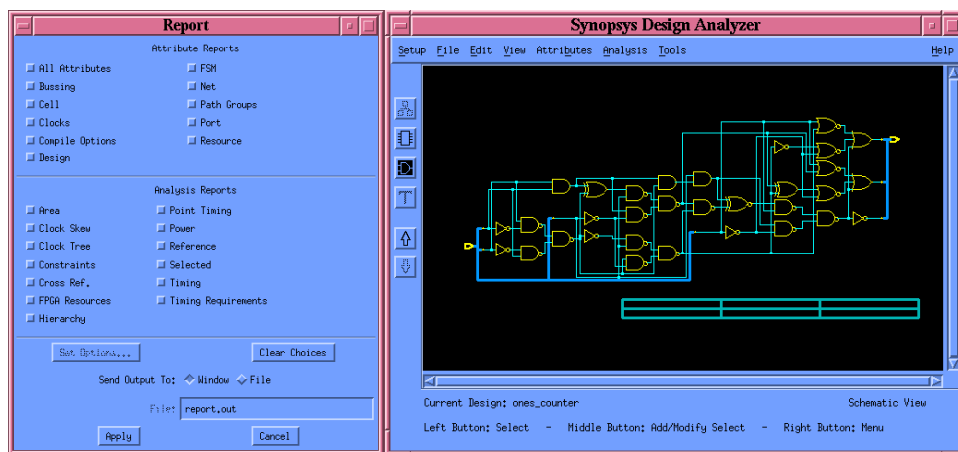

Fig. 10: Analysis report
1. Select Analysis \Rightarrow Report (see Fig. 10). Customize the report by choosing the desired options.
2. Analysis report can be saved to a file by selecting the “File” option in “Send Output To” field (see Fig. 10)